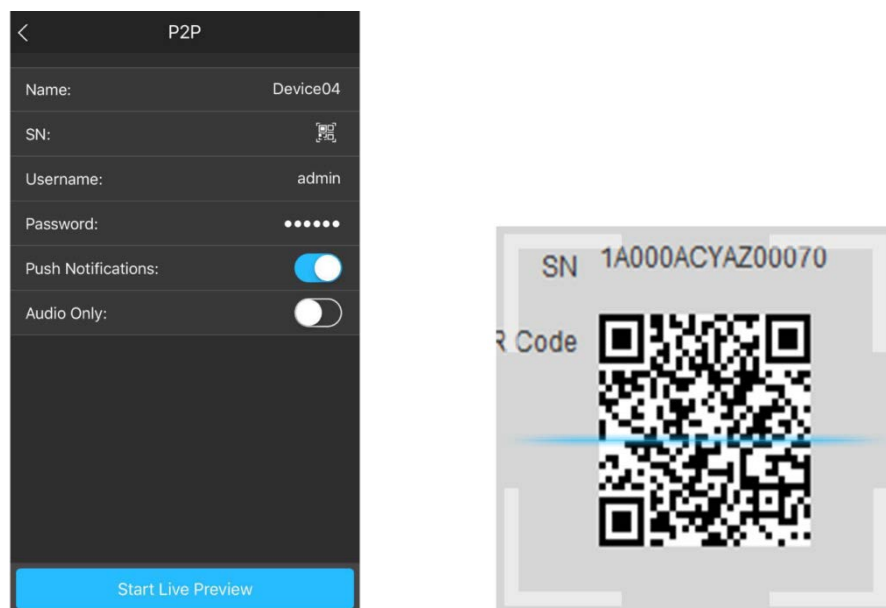

Figure 5-4
b) Use the cell phone to scan the QR code. See Figure 5-4.